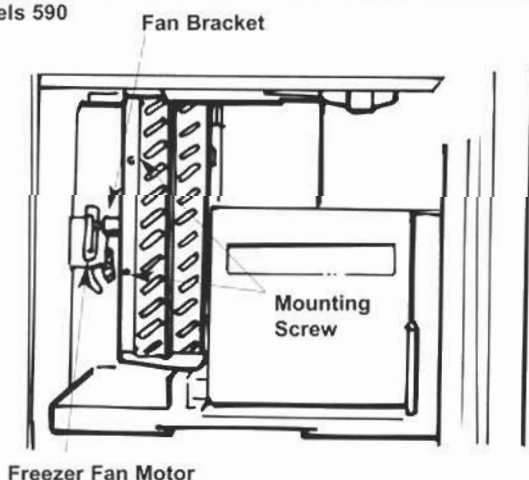

Figure 2-34. Freezer Fan Motor
3. Remove two screws, then pull fan motor assembly out (Figure 2-34).